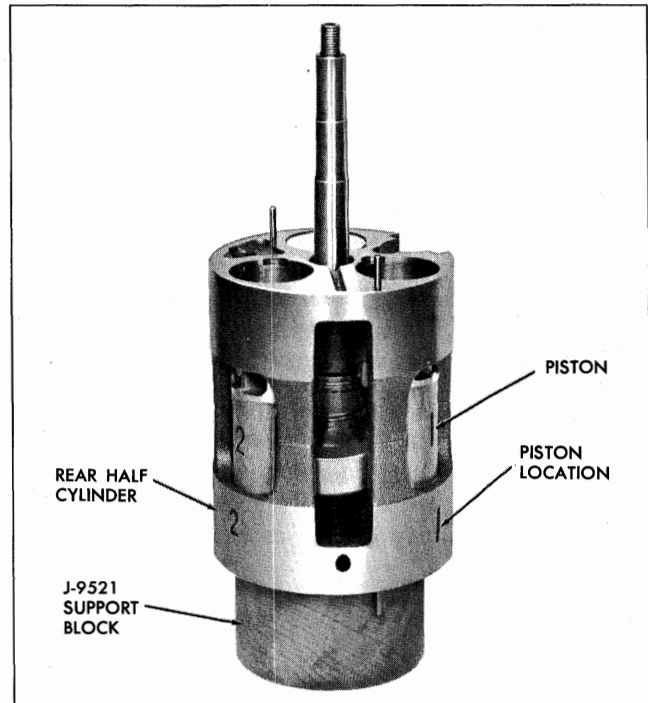

Fig. 5-13 Pistons and Cylinder Bores Numbered
1. Number pistons (1, 2 and 3) and their bores so parts can be replaced in their original locations (Fig. 5-13).